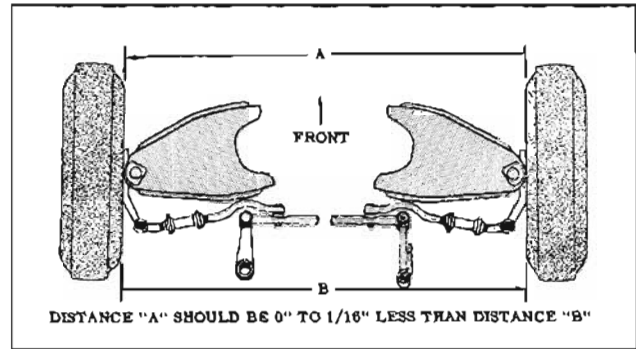

Fig. 9-32 Front Wheel Toe-in
3. TOE-IN (Fig. 9-32)
TOE-IN ADJUSTMENT (0" to 1/16") (Fig. 9-32)